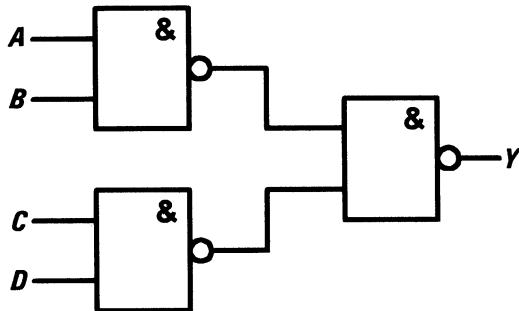

Figure A2.22
46. Draw the truth table for the logic gate arrangement shown in Fig. A2.22. [Page 165]